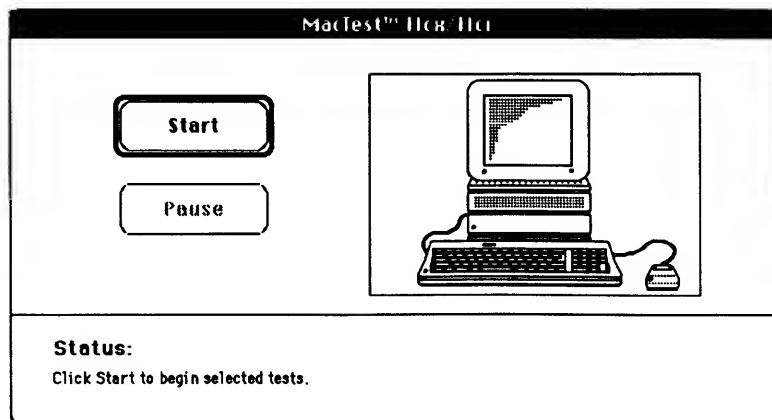

Figure 3-1 MacTest IIcx/IIci Status Window
3. Insert the *MacTest IIcx/IIci* disk into the internal drive, and switch on the system. *MacTest IIcx/IIci* will display the Status window (**Figure 3-1**). Click **Start** to run the tests.